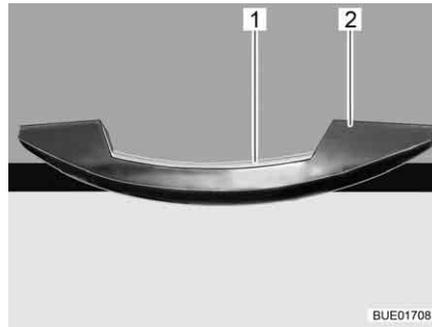

Fig. 50 Handle with unlocking bar (example)
- Press the unlocking bar (Fig. 50,1) and hold it down.
- Pull the handle (Fig. 50,2) until the furniture flap is open.